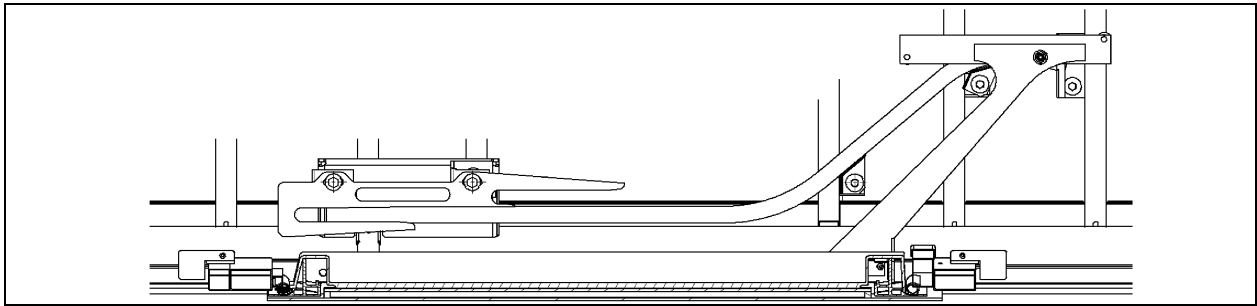

FIGURE 68: WCL UPPER ARM AND RAIL
2. Slide the top rail into the upper arm then bolt the rail to the structure. Do not fully tighten (Refer to Figure 68).